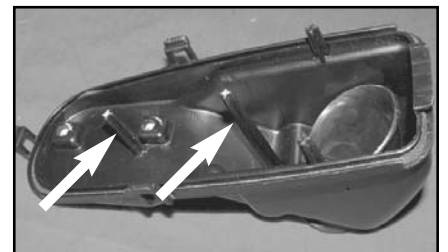

Fig. 3
5. Before installing the air box top you must cut the two posts down a 1/2". (Fig. 3)